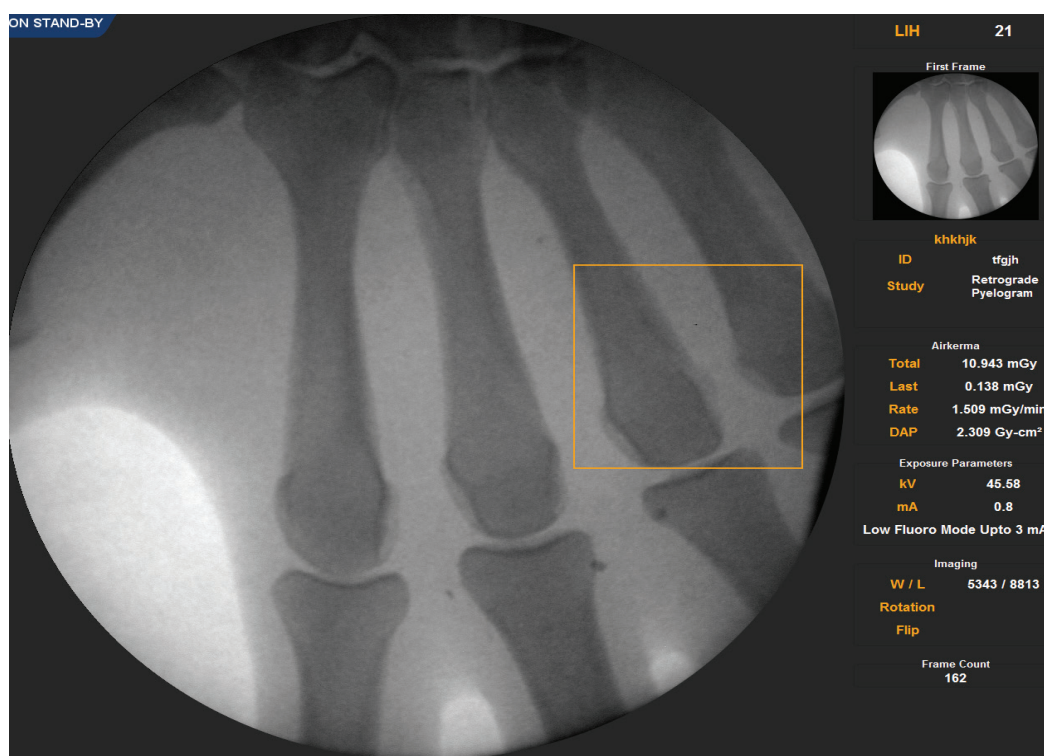

Figure 49: User selectable region for image optimization selection
- **Enabling:** Software will enable this feature on left mouse double click on the Live window after the Live window initialization. Once this feature is enabled software will display a square box (orange color) when mouse is moved as shown in "Figure 49".